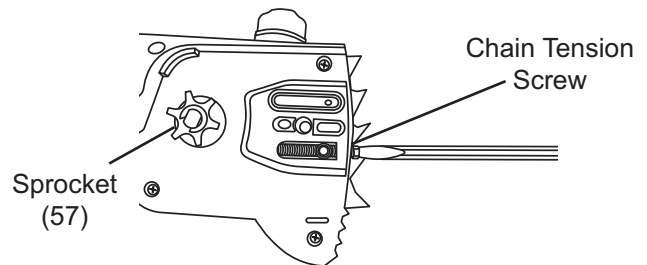

Figure 3
5. Use the Hex Wrench to turn the chain tension screw counterclockwise. The Tension Pin (51) is moved toward the left. See Figure 3, right.